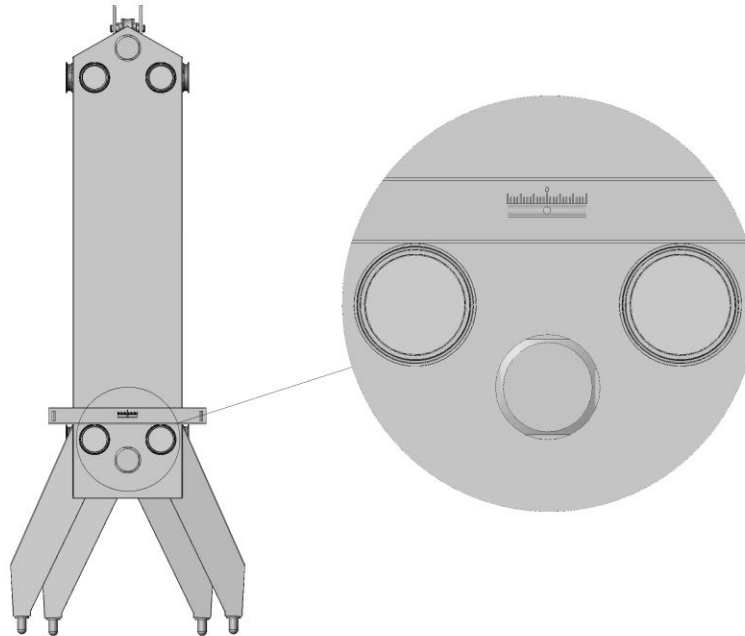

Figure 6-5
7. After the press is upright and in the desired location it must be leveled so the plates and terminals will hang correctly. Make sure the fixed end is plumb. This can be accomplished by putting a spirit level across the ports (see figure 6-5). Adjust the ball feet as necessary. Caution: Do not exceed maximum port center height as shown in the drawing package.